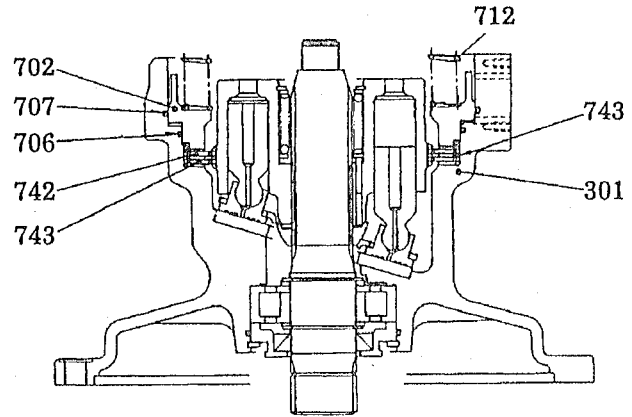

Fig. 20 Assembling the parking brake
- 10) Fix O rings (706,707) to casing (301).
- 11) Fix brake spring (712) to brake piston (702).
- ☞ Fit the four slits on the brake piston (702) in the position shown in Fig. 20.
- ☞ When the brake piston (702) is hard to enter due to the resistance of Orings, screw in a M6 socket bolt into the brake piston and knock it evenly by means of a plastic mallet.
- ☞ Confirm that the brake spring is fitted securely in the spot facing of the brake piston (702).